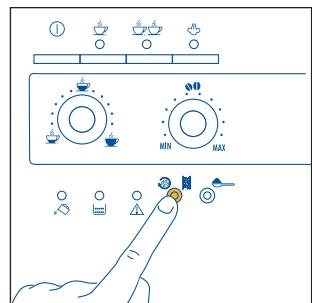

Fig.14
1) If, when the machine has just been turned on, a short cup of coffee is required (less than 60cc), use the hot rinsing water to pre-heat the cups (see the suggestion in par. 4.3, point 5). 1) If, when the machine has just been turned on, a short cup of coffee is required (less than 60cc), use the hot rinsing water to pre-heat the cups (see the suggestion in par. 4.3, point 5). If, on the other hand, more than 2/3 minutes have elapsed since the last coffee was made, before preparing **another coffee** the infuser must be pre-heated, pressing the  button (Fig. 14).